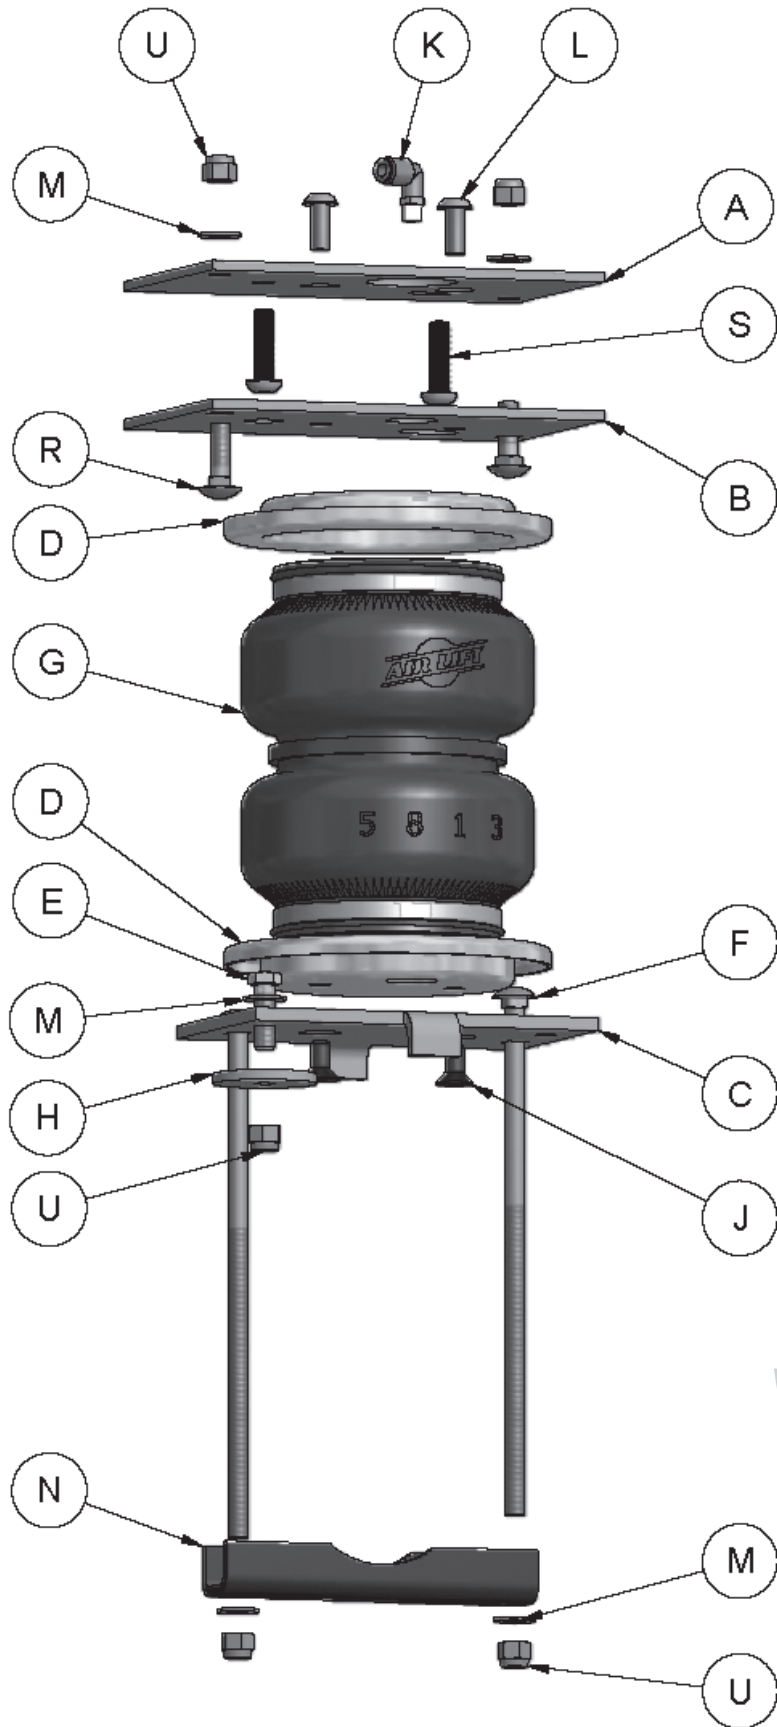

fig. 1
- Insert the 3/8" carriage bolt (R) through the upper air spring bracket (B) in the hole at the back side only (Figs. 1 & 10).
5. Set both brackets onto the air springs and attach using the 3/8" button head screws (L). Torque no more than 20 lb.-ft.
6. Install the thick 3/8" flat washer (H) onto the lower bracket (C) with 3/8" hex head bolt (E), 3/8" flat washer (M) and 3/8" nyloc nut (U) as shown (Figs. 1 & 11). Tighten securely.
7. Insert the long 3/8" carriage bolts (F) into the square holes in the lower bracket opposite side of the flanges (Figs. 1 & 11).